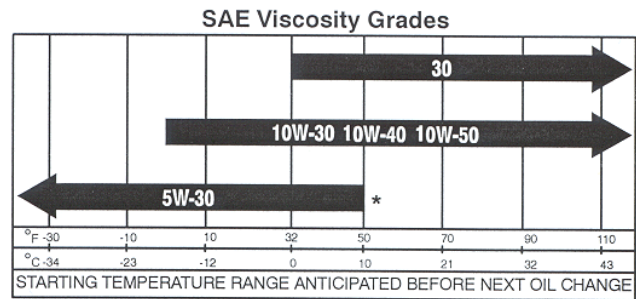

Figure 13
3. The engine uses any high-quality detergent oil having the American Petroleum Institute -API- "service classification" SH or higher. Choose a viscosity according to the table in figure 13.